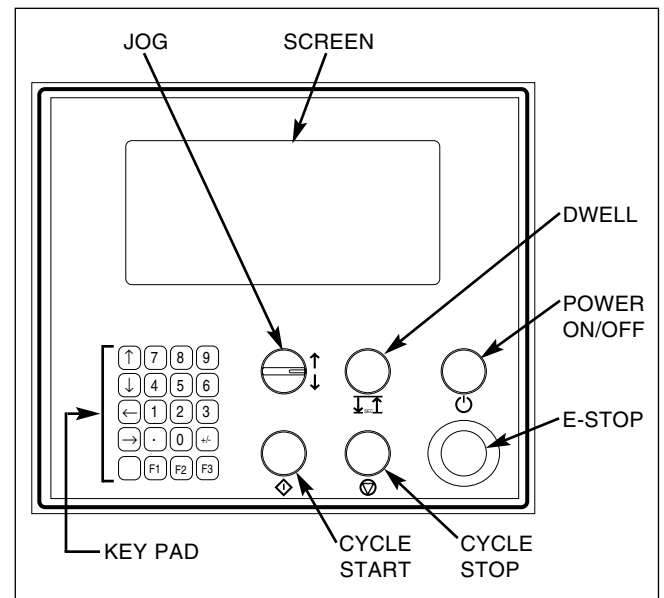

FIGURE 2, Operator Controls
10. Use Jog Selector Switch to retract stones enough to enter bore (*see Figure 2*).